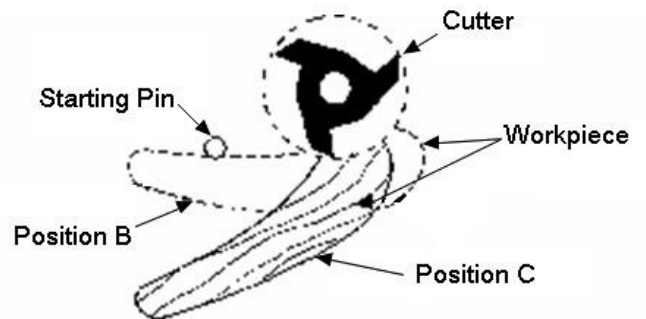

Fig. 41
2. After the cut has been started, the work is swung free of the starting pin and only rides against the collar (Fig. 41). Always feed against the cutterhead rotation.